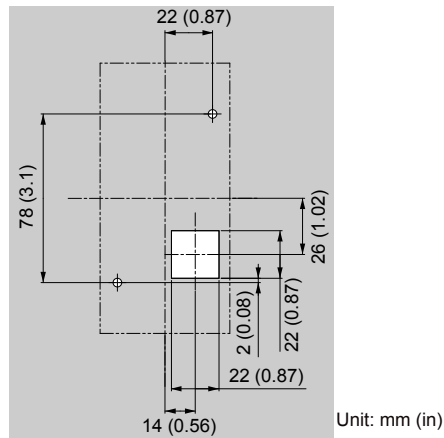

Figure 2.13 Panel Cut-Out Dimensions (External/Face-Mount Installation)
1. Cut an opening in the enclosure panel for the HOA keypad as shown in Figure 2.13.